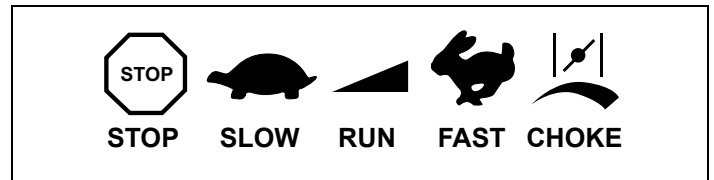

Figure 9. Typical Engine Symbols
2. Move engine speed control to "FAST" and set choke control to "FULL" (see equipment manufacturer's instructions). See Figures 9, 10 and 11.